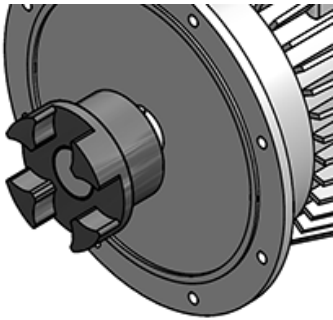

Fig. 12: Fitting the coupling to the motor shaft
3. Pull the coupling sleeve onto the motor shaft according to the instructions of the motor manufacturer. The shaft end of the motor must be adjusted so that it is parallel with the face of the coupling (see Fig. 12).